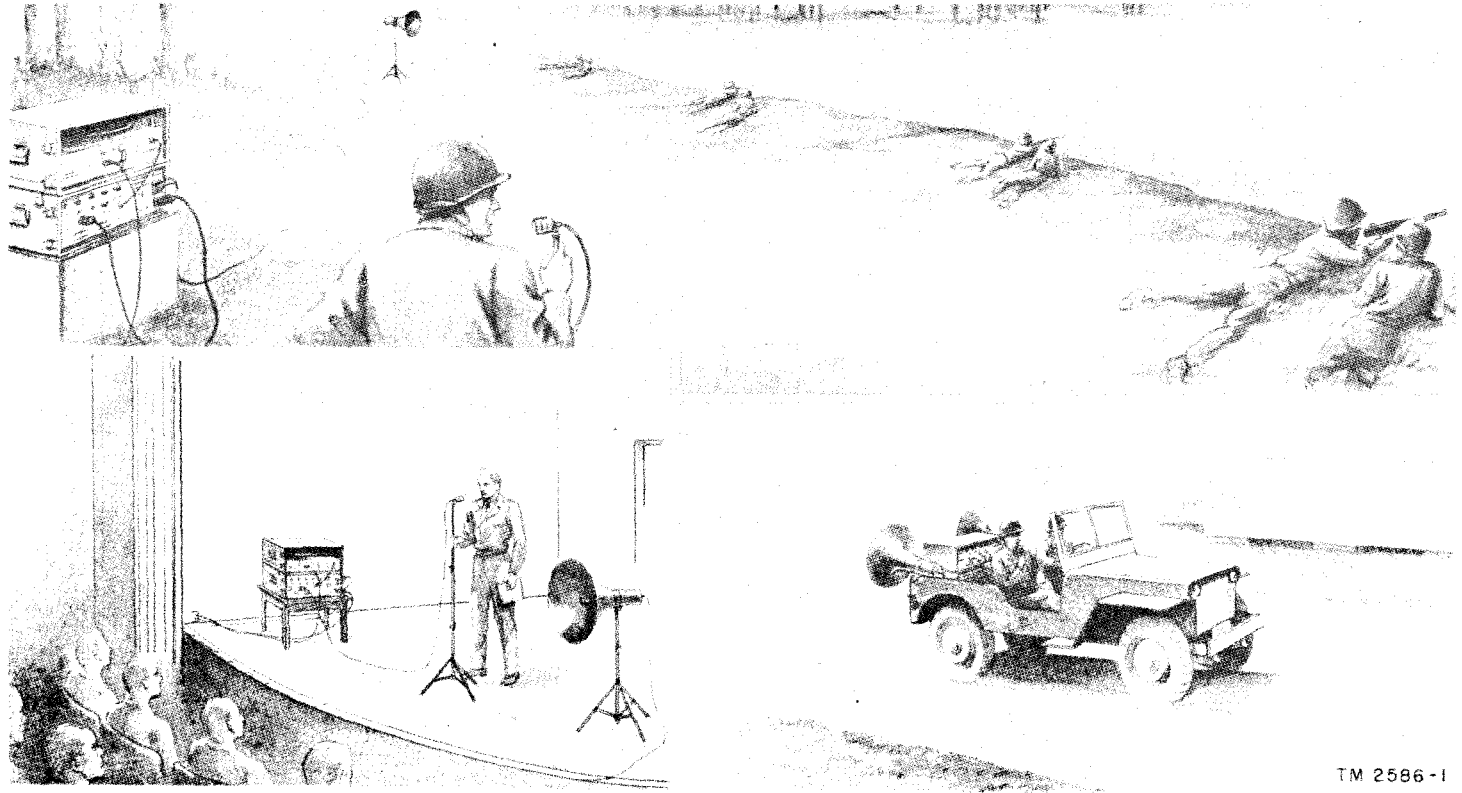

Figure 1. Operation of Public Address Set AN/TIQ-2(\*).
a. *Purpose.* Public Address Set AN/TIQ-2(\*) is a portable loud-speaker system which permits an individual to speak to large groups of troops or to troops dispersed over a wide area (fig. 1). It also provides facilities for retransmitting radio programs and recordings. The public address (PA) set can be operated on either alternating current (ac) or direct current (dc).